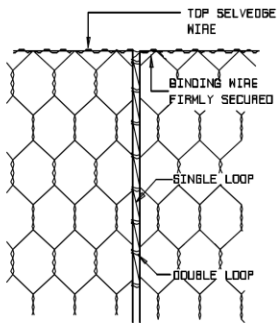

FIGURE 3
3. SECURING THE BINDING WIRE AROUND THE TOP SELVEDGES OF THE PANELS TO BE JOINED TOGETHER, LACE THE WIRE AROUND THE TWO EDGE SELVEDGES WITH SINGLE LOOPS AND DOUBLE LOOPS IN TURN AT 100mm INTERVALS (FIGURE 3). FINALLY, FASTEN THE WIRE SECURELY AT THE BOTTOM CORNER SELVEDGES AND POKE THE LOOSE END INSIDE THE GABION BOX. THEN LIFT THE DIAPHRAGMS INTO THE VERTICAL POSITION AND WIRE THEM UP TO THE SIDE PANELS IN EXACTLY THE SAME WAY. THE TIGHTNESS OF THE MESH AND WIRING IS ESSENTIAL AT ALL TIMES.